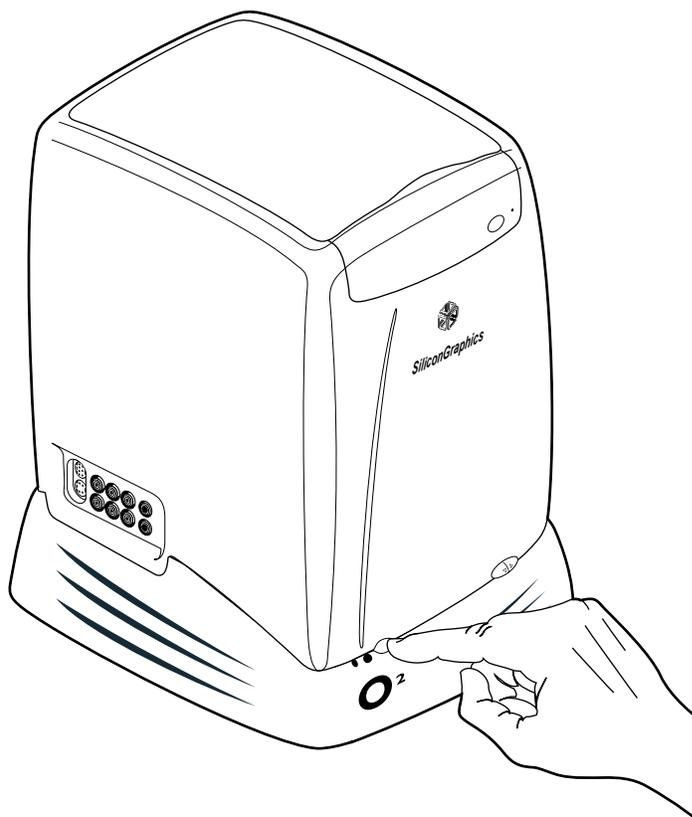

Figure 2-6 Turning On the O2 Workstation
4. Turn on the workstation by pushing the power button on the front (Figure 2-6).